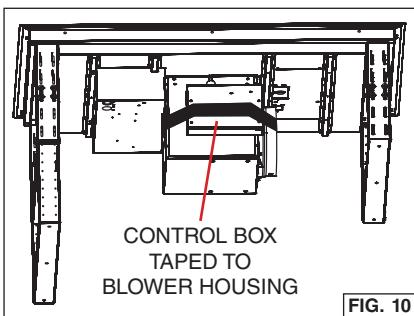

FIG. 10
1. Remove control box from side of blower box. Fig. 10.